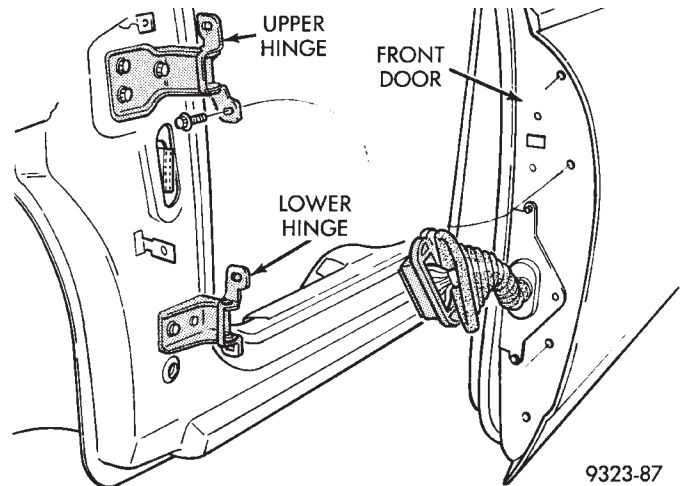

Fig. 12 Door and Hinge—Typical
- (1) Open and support door on a suitable lifting device.
- (2) Remove bolts holding door check strap to lower A-pillar for greater access, if necessary.
- (3) Mark position of hinge on both the door end frame and lower A-pillar to ease installation.
- (4) Remove bolts holding hinge to door end frame (Fig. 12).
- (5) Remove bolts holding hinge to lower A-pillar.
- (6) Separate door hinge from vehicle.